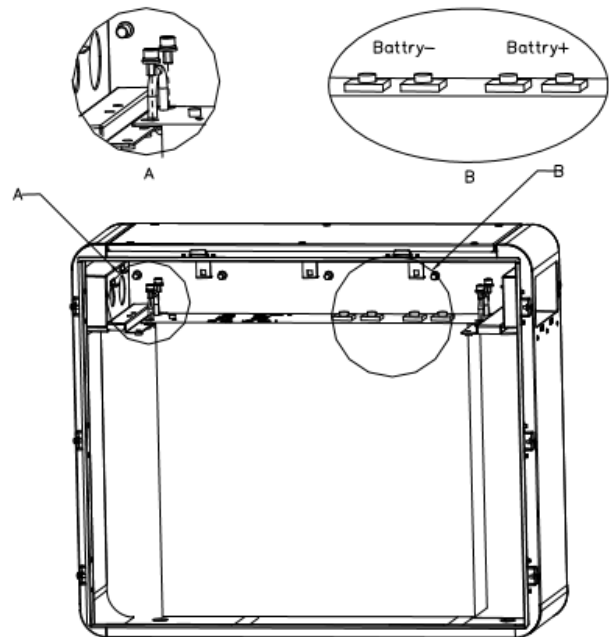
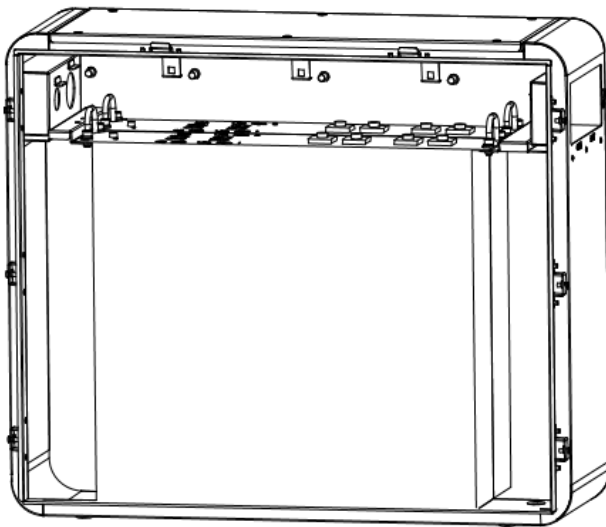

Figure6.battery installation and placement
Figure 7. position of two groups of batteries after installation.
B. Place the lithium iron phosphate battery as shown in the figure (note the placement direction of the battery: the battery power terminal is on the right side of the chassis), tighten it with 4 M6*12 hexagonal combination bolts (as shown in figure6), and fix the other battery in this way (as shown in figure7).